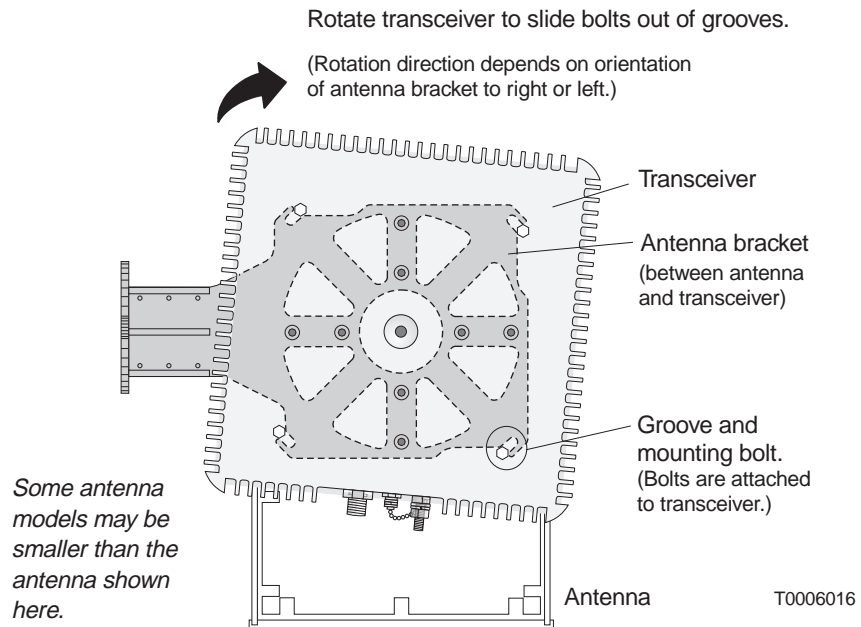

Figure 10-2 Removing the transceiver
4. Loosen the four transceiver mounting bolts (shown in figure 10-2).
5. Rotate the transceiver until the bolts slide out of the four grooves in the antenna bracket. (The direction of rotation depends on the orientation of the antenna bracket—to the right or left.) If the mounting bolts will not slide into the grooves, loosen the bolts. See figure 10-2.